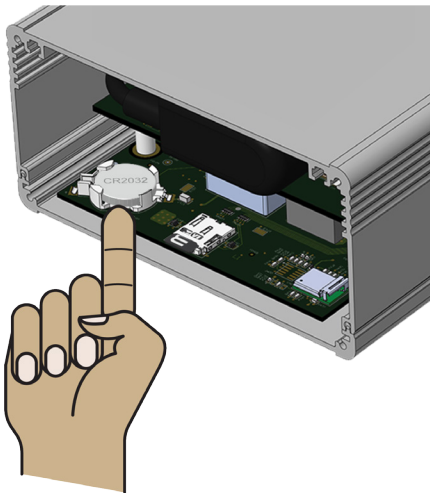

Figure 22: Remove the coin battery
- a. Remove the coin battery by prying the bottom of the battery upward, releasing the battery from the holder. Refer to Figure 22 below.